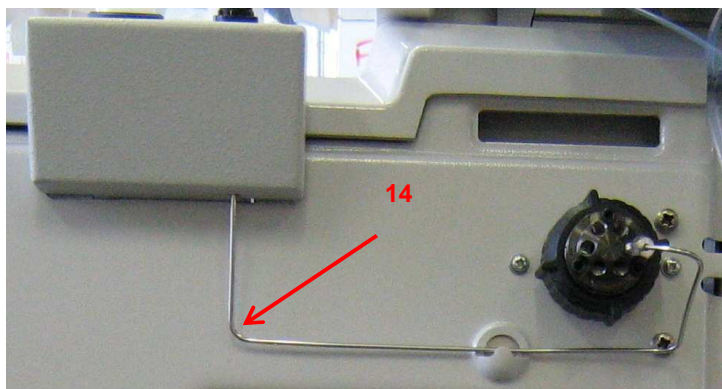

Figure 17: Default tubing connecting the injection port to the injection valve
20. You can leave the default set up, with the tubing (**14**) running from the injection port mounted on the front panel, into the injection valve (*Figure 17*).